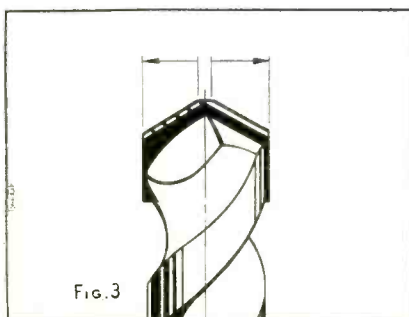

FIG. 3
3. Keep the two cutting edges of the drill of equal length while sharpening (*Fig. 3*). If one edge varies in size, the drill will make oversized cuts.